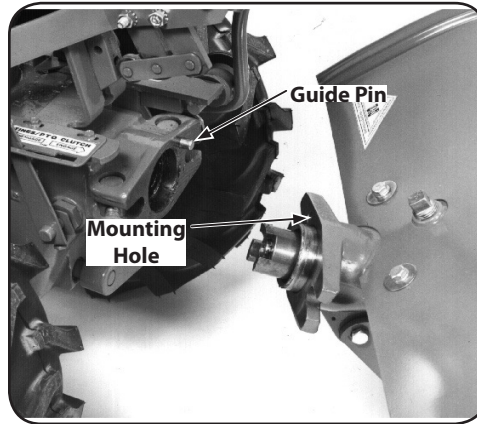

Figure 4-24
- The guide pin on the power unit will slide out of the guide hole in the tine attachment. See Figure 4-24.
- Carefully align the guide pin on the PTO Power Unit with the alignment hole in the tine attachment and bring the two units together. See Figure 4-24.